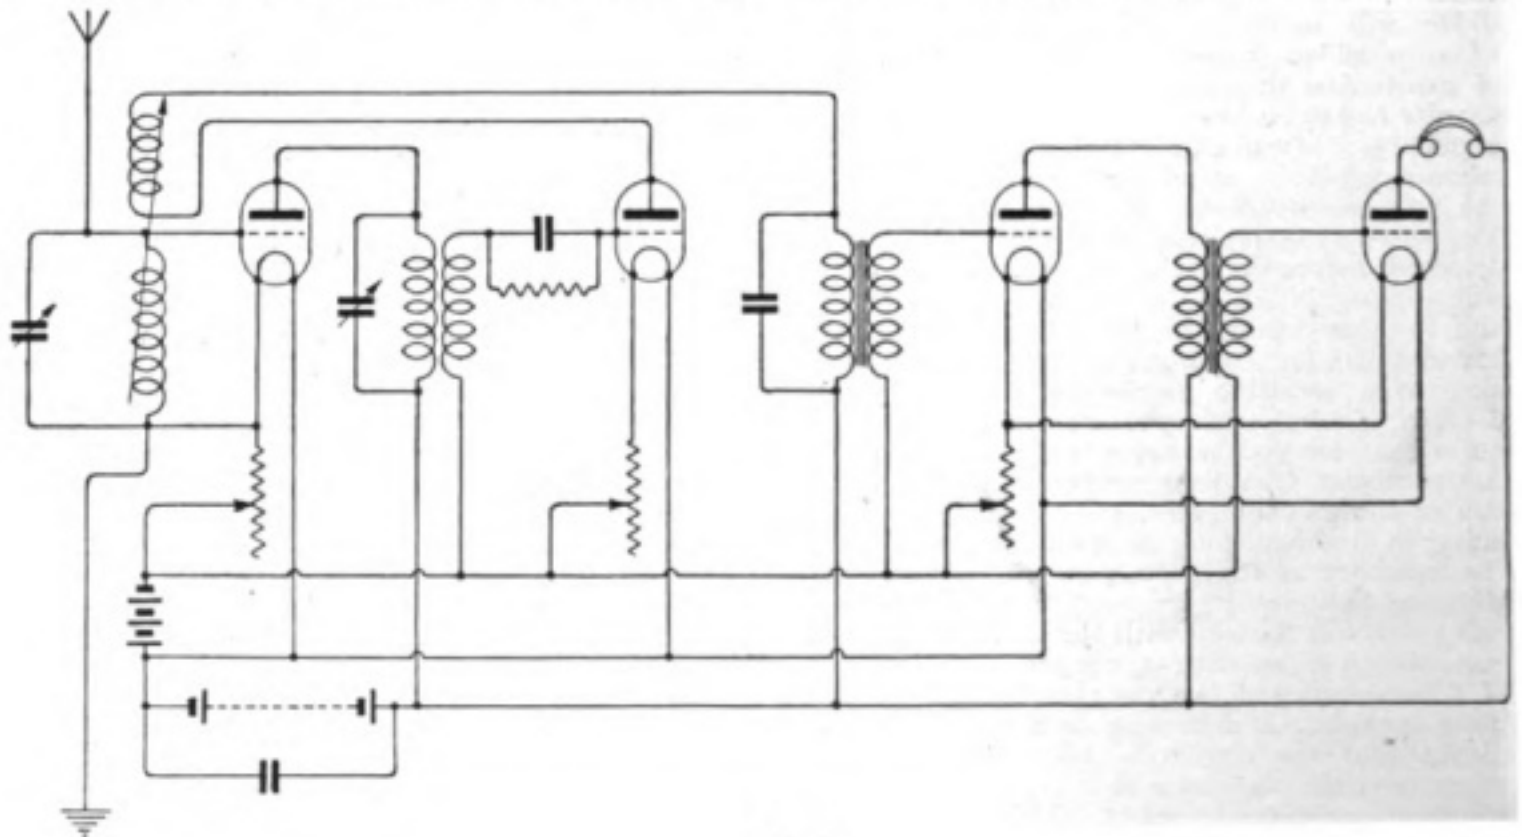

Fig. 2.
(1) See circuit Fig. 2. This is fitted with an intervalve H.F. transformer which is to be recommended, for although H.F. amplification does not magnify to the same extent as L.F., it will bring in signals which any amount of L.F. amplification would not render audible. As you are only desirous of receiving telephony, which, excepting Paris and Croydon, is always on 350 to 450 metres, one H.F. transformer specially wound for these wavelengths may be incorporated in the set. If you are desirous of tuning in telephony stations on other wavelengths, you must make the trans-
See diagram (Fig. 2).